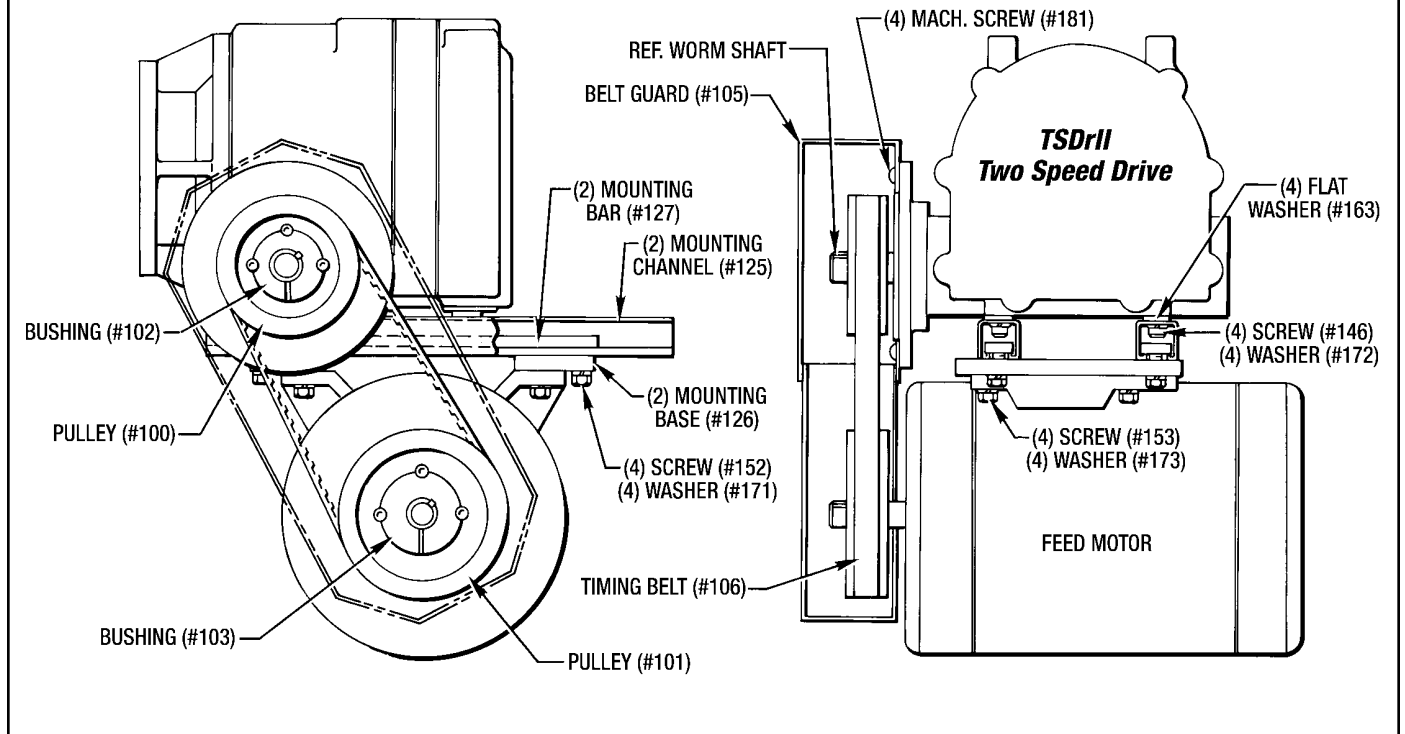

Figure 9.21 - Belt Drive (Bottom Mounted Feed Motor)
- B. Bottom Mounting (See Figure 9.21)